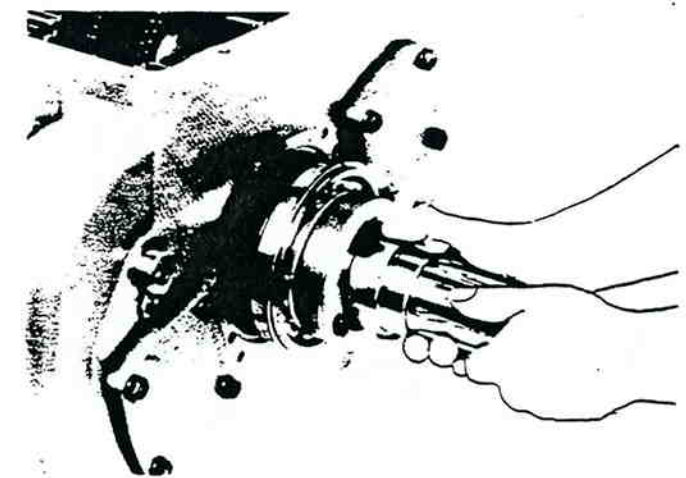

Figure 13-153. Installing Output Shaft Assembly.
2. Install the output shaft assembly over mainshaft, seating bearing in case bore (figure 13-153).